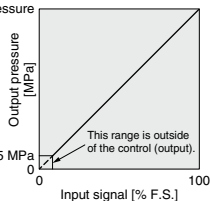

Fig. 1 Input/output characteristics chart
*1 Please refer to Fig. 1 for the relationship between set pressure and input. Because the max. set pressure differs for each pressure display, refer to page 1227.